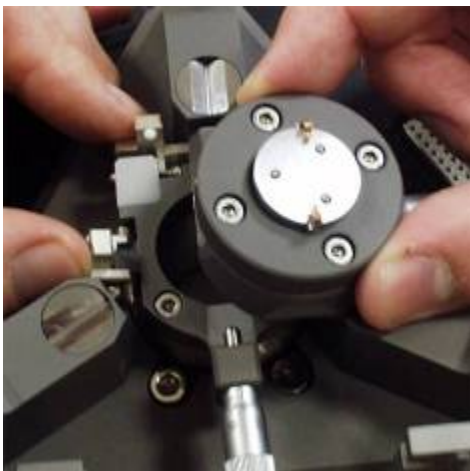
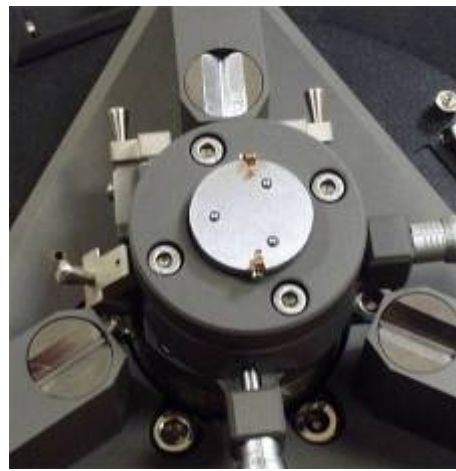

Fig. 2-7
Fig. 2-8
4. Sample holder is installed into the positioning device (Fig. 2-7, Fig. 2-8).